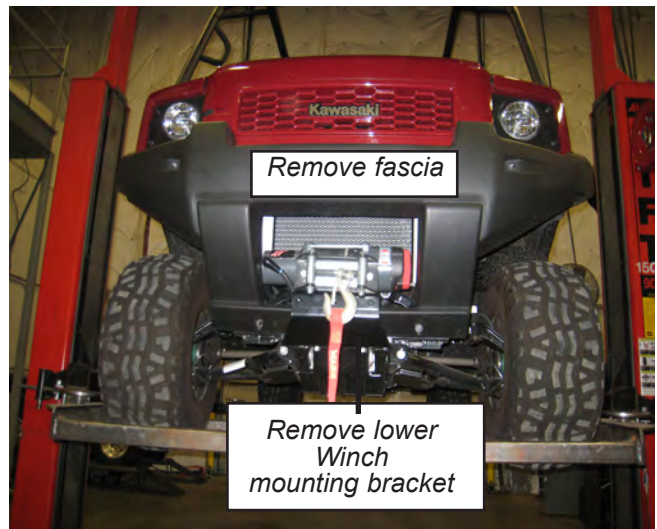

Figure 1
1. Prior to installing the plow mount, the vehicle must be prepped. Remove the plastic fascia or any aftermarket installed bumper from the front brush guard. The parts will interfere with plow operation. If vehicle is equipped with a Warn winch mount, it will be necessary to remove the lower half of the winch mount first to remove plastic fascia. See figure 1.